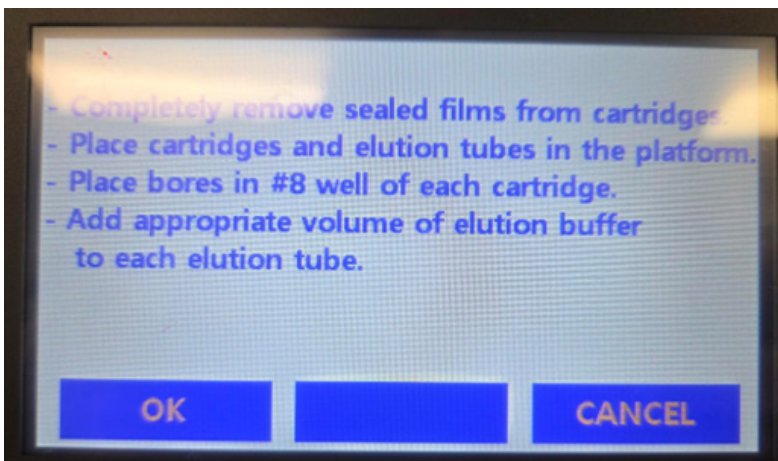

Figure 8: Instructions on the interface of the CleanXtract LV before starting the run.
5. Two instruction messages will appear on the CleanXtract LV display: one instructing to close the door of the device and the other instructing various sample related matters, see Figure 8. Make sure to follow these instructions thoroughly to prevent an error from occurring.